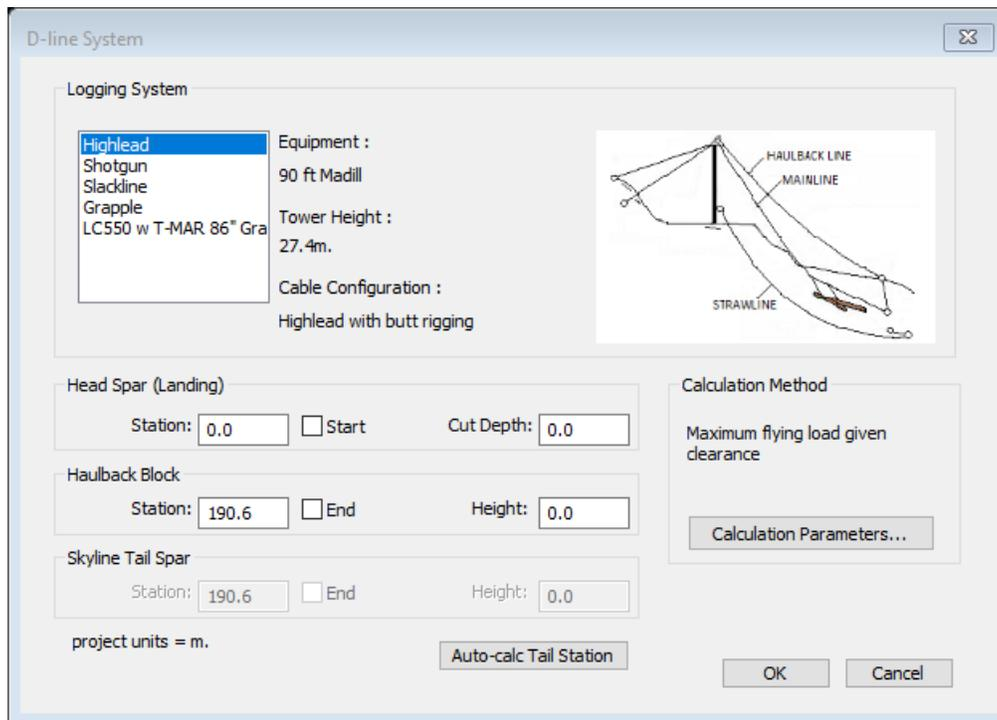

Figure 12-7: D-Line System dialogue box.
3. Select the *Cable-Analysis* tab in the ribbon bar, then click on the  **New** button. The *D-line System* dialogue box shown in Figure 12-7 will appear.